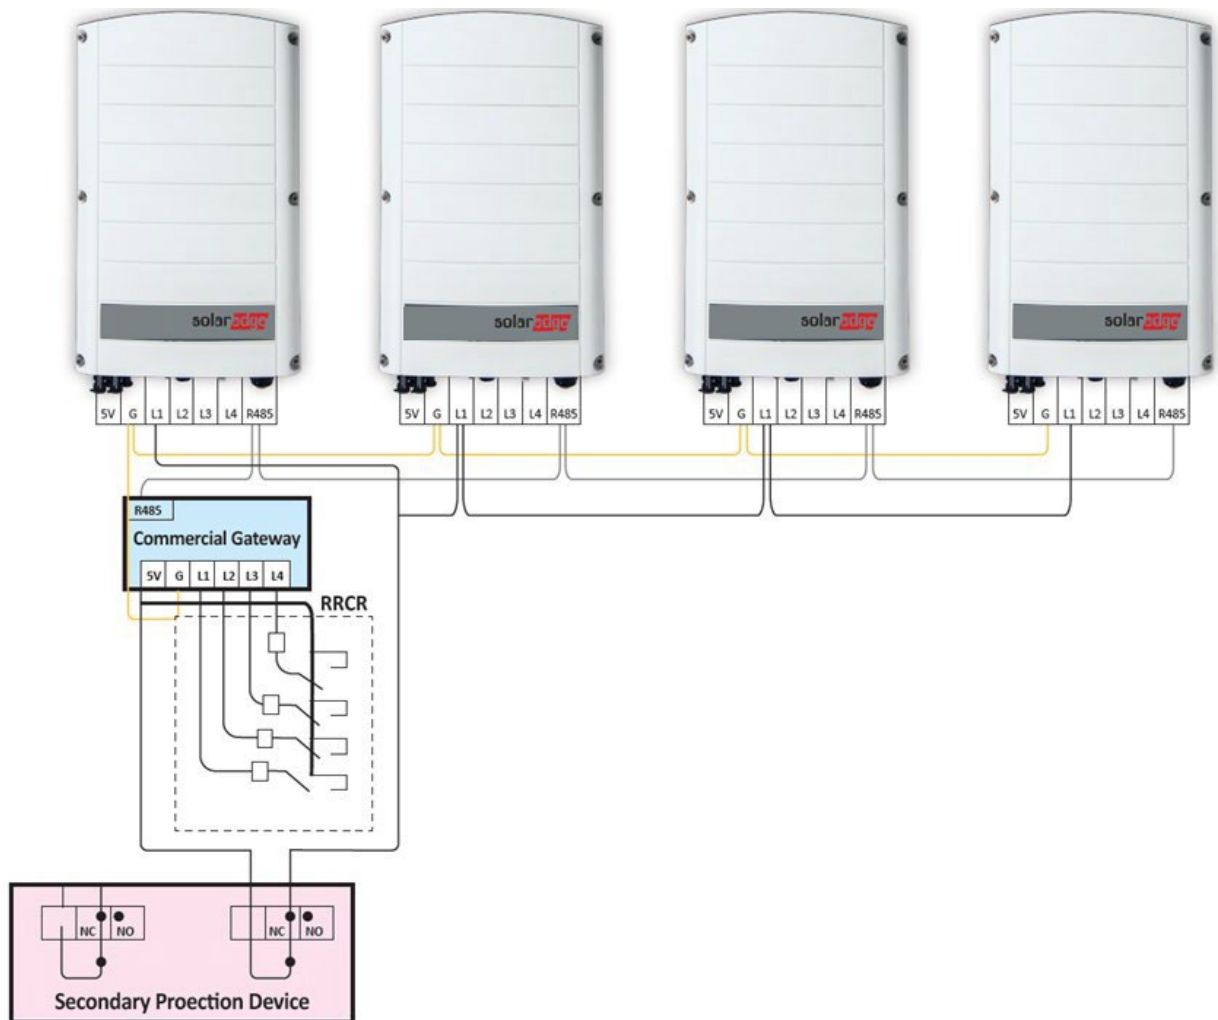

Figure 5: Multiple Inverter System, with RRCR and Commercial Gateway
- **Version 1.3, September 2018** – added missing Ground connection from inverter to Commercial Gateway in figure 5 and changed CCG to Commercial Gateway.
To control the inverter relays the secondary protection device is connected to the inverter's Power Reduction Interface (PRI) connector located on the inverter communication board. In an installation with a Commercial Gateway the device should be connected to the Commercial Gateway's PRI connector as shown in Figure 5: Multiple inverter system, with RRCR and Commercial Gateway .